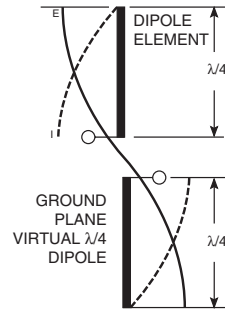

Figure 36: Dipole Antenna
4. In many antenna designs, particularly $\frac{1}{4}$ -wave whips, the ground plane acts as a counterpoise, forming, in essence, a $\frac{1}{2}$ -wave dipole (Figure 36). For this reason, adequate ground plane area is essential. The ground plane can be a metal case or ground-fill areas on a circuit board. Ideally, it should have a surface area less than or equal to the overall length of the $\frac{1}{4}$ -wave radiating element. This is often not practical due to size and configuration constraints. In these instances, a designer must make the best use of the area available to create as much ground plane as possible in proximity to the base of the antenna. In cases where the antenna is remotely located or the antenna is not in close proximity to a circuit board, ground plane or grounded metal case, a metal plate may be used to maximize the antenna's performance.